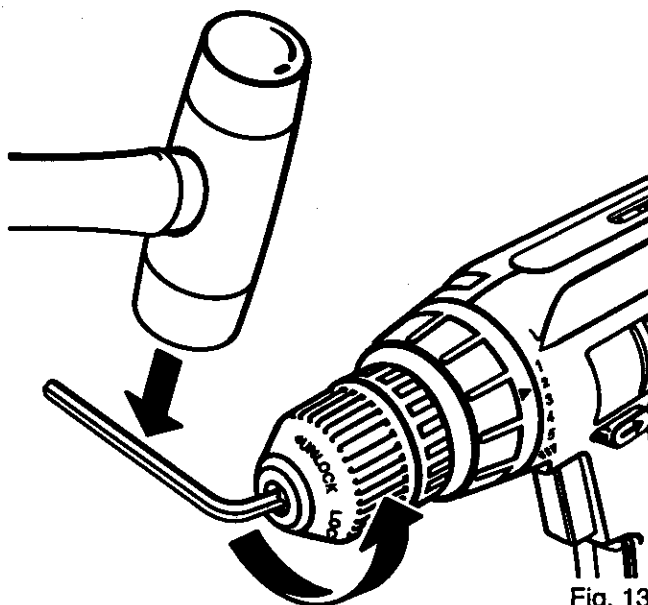

Fig. 13
- Insert allen wrench in chuck and tighten chuck jaws securely. Tap sharply with a mallet in a counterclockwise direction. This will loosen chuck on the spindle. It can now be unscrewed by hand. See Figure 13.